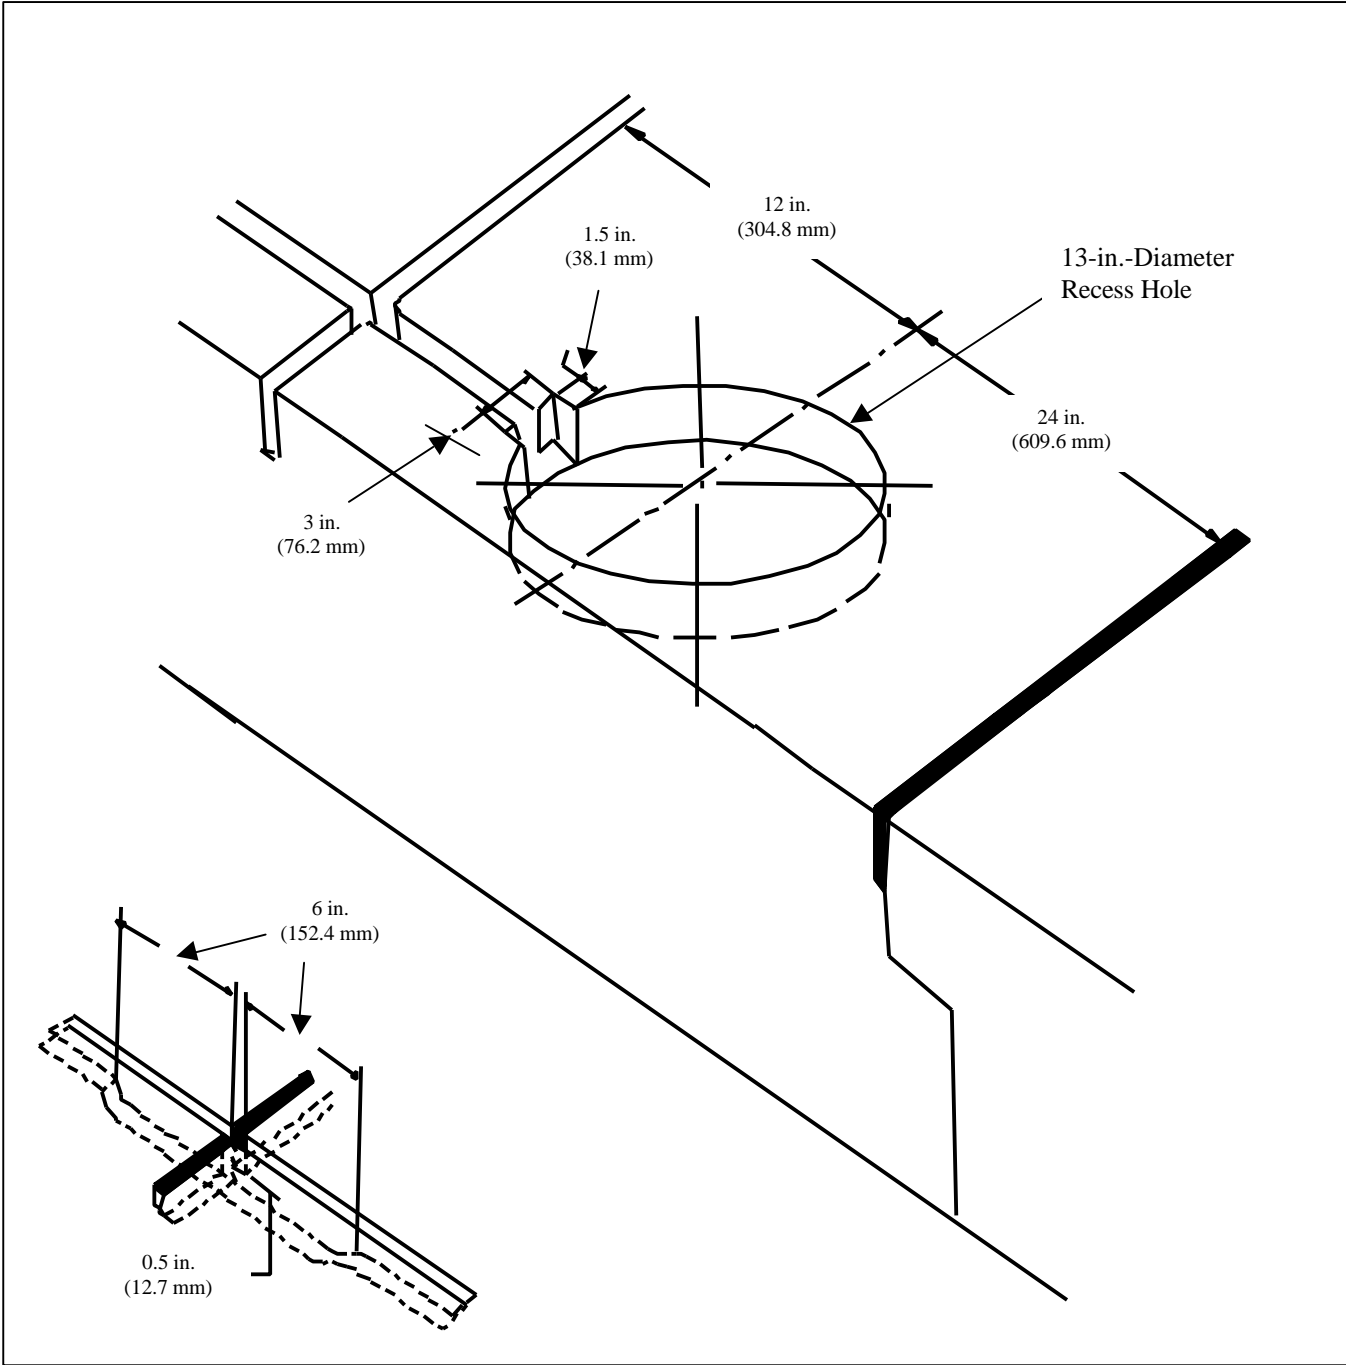

Figure 3. Preparing Pavement Recess and Wireways
- See Figure 3. Drill the recess in the pavement. For the L-852A-D dualite fixture, drill the hole a minimum of 4.5 in. (104.3 mm) deep.
- See Figure 3. The wireways should be sawed using a 3/8-in.- (9.525-mm-) thick diamond-faced saw.
See Figure 3. To torque the outer bolts across corners, tighten bolts in noted sequence: #1 and #4, then #2 and #5, then #3 and #6.